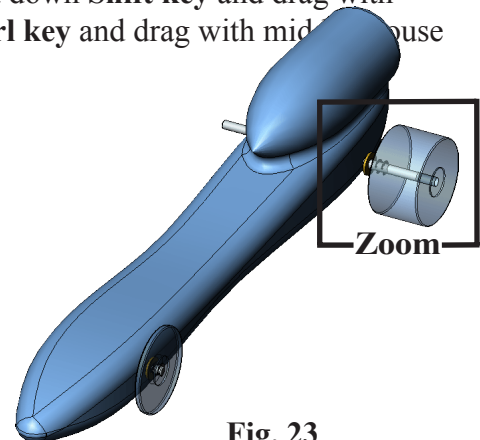

Fig. 23
Step 2. Zoom in around **Rear Wheel**, **Fig. 23**. To **zoom**, hold down **Shift** key and drag with middle mouse button (wheel). To **pan**, hold down **Ctrl** key and drag with middle mouse button (wheel).